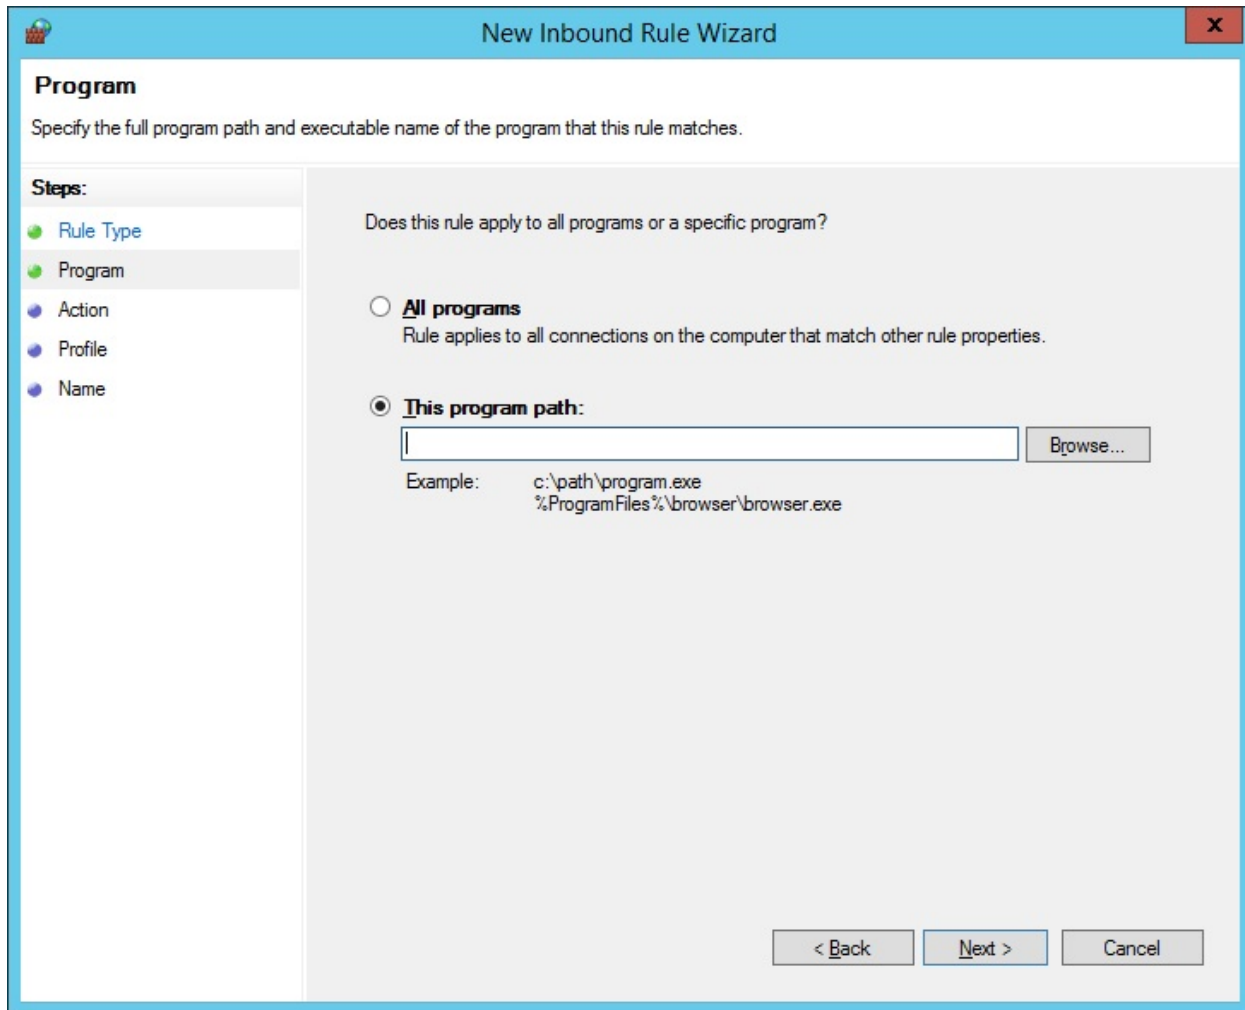

Figure 2-81. New Inbound Rule Wizard – Program page
8. On the Program page (see *Figure 2-81.*), you can add Object Server to the list of authorized communicators through the Windows Firewall. Click the **Browse** button next to the **This Program Path** field to locate the Bristol OPC Server (**BristolOPCServer.exe**).